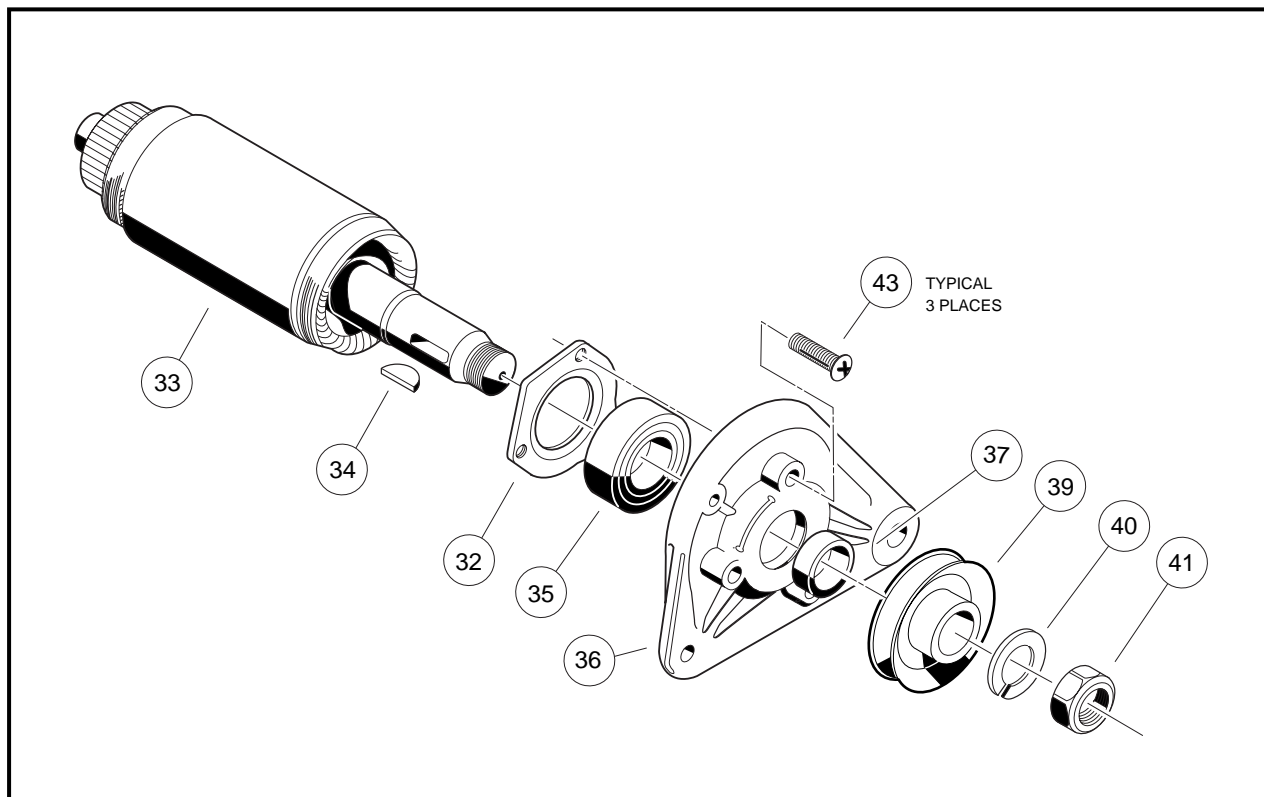
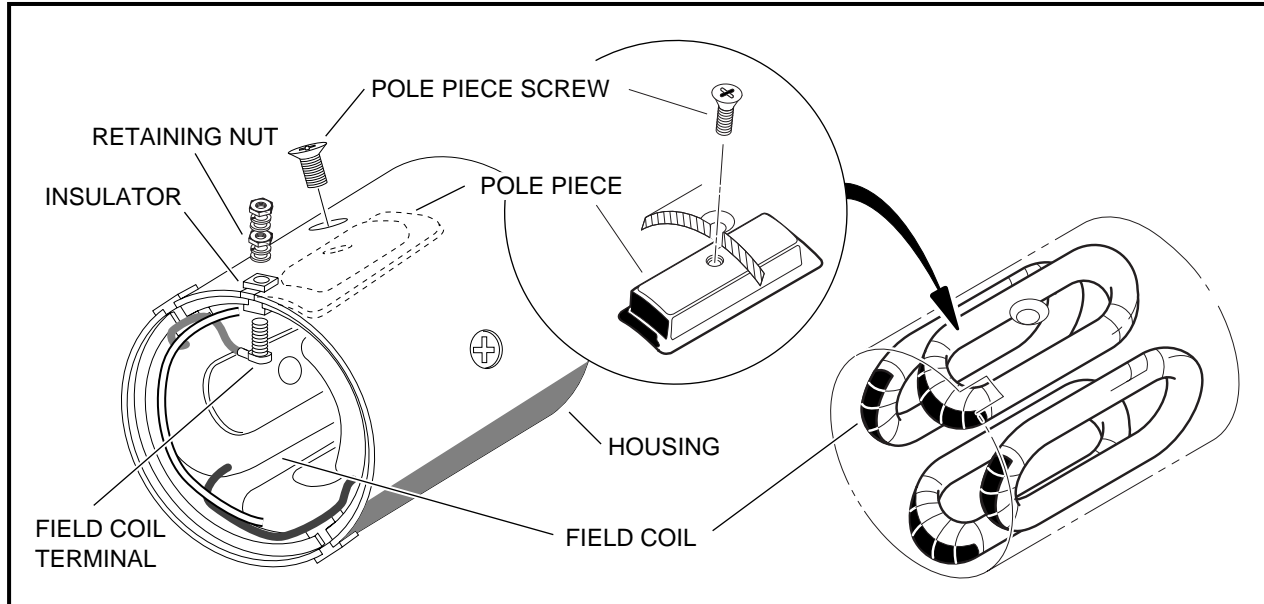

Figure 12-8 Armature and Output End Cover Assembly
Figure 12-11 Field Coil Assembly
3. To separate armature (33) from output end cover (36), remove nut (41), lockwasher (40), pulley (39), shaft key (34), spacer (37), and bearing retainer screws (43) (**Figure 12-8, Page 12-6**).
3. Slide the bearing retainer (32) off of the output end of the shaft (**Figure 12-8, Page 12-6**).
1. Remove the retaining nut from each field coil terminal and slide the insulator out of the slots in the housing. Remove the four pole piece screws from the housing. Remove the four pole pieces from inside the housing. Remove the field coils from the inside of the housing (**Figure 12-11, Page 12-8**).
NOTE: Do not remove the insulators or the field coils unless an electrical test indicates that it is necessary (Figure 12-11, Page 12-8). See Test Procedure 8, Section 11, Page 11-28.
2. After the insulators are seated in the slots, install the threaded terminals through the wire connectors and then through the insulators. Install a flat washer, lockwasher and nut onto each threaded terminal on the outside of the housing. Tighten nuts to 47.5 in-lb (5.4 N-m) (**Figure 12-11, Page 12-8**).
3. Install the four pole pieces into the housing. Use the four screws to secure pole pieces to the inside of the housing to retain the field wires. Tighten screws to 9 ft-lb (12.2 N·m) **(Figure 12-11, Page 12-8)**.
4. Slide the bearing retainer onto the output end of the armature shaft (33) so that it will hold the outside of the bearing (35) only.
5. Press a new ball bearing (35) onto the output end of the armature **(Figure 12-8, Page 12-6)**. Press a new ball bearing onto the commutator end of the armature shaft. **See following CAUTION.**
6. Install the output end cover (36) onto the armature. Secure the bearing retainer (32) to the cover and tighten the screws (43) to 39 in-lb (4.4 N·m) **(Figure 12-8, Page 12-6)**.
11. Slide the spacer (37) onto the end of the shaft. Insert the shaft key (34) into the shaft. Install the belt pulley (39) onto the shaft, and install the lockwasher (40) and M14 nut (41). Tighten the nut to 28 ft-lb (38 N·m) **(Figure 12-8, Page 12-6)**.